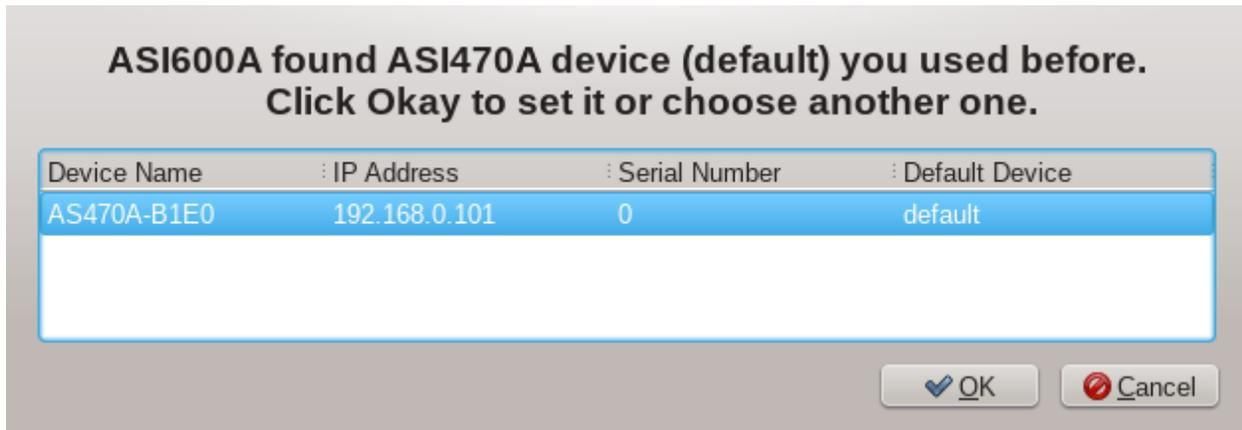

Figure 5 Connect to Device Window
5. If the 470A does not connect automatically then click on the Device menu item and then click on Connect to Device. The 470A device should then be found, click on the device in the list shown in Figure 5.